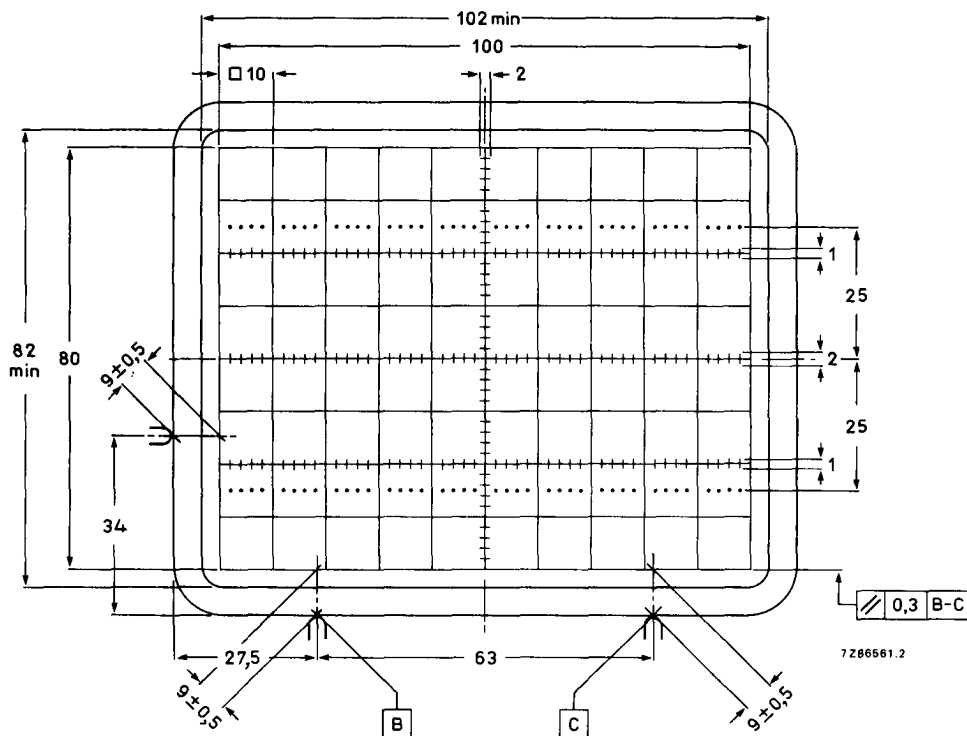

Fig. 4 Front view of tube with internal graticule, type 93.
Internal graticule	type 93; see Fig. 4
The tube can be mounted in any position. It must not be supported by the socket and not by the base region alone. The reference points on adjoining edges of the faceplate (see Fig. 4) enable the tube to be mounted accurately in the front panel, thus providing optimum alignment of the internal graticule.
- (4) Reference points on faceplate for graticule alignment (see Fig. 4).
The internal graticule is aligned with the faceplate by using the faceplate reference points, see Fig. 4. See also note 1.
1. As the frit seal is visible through the faceplate, and not necessarily aligned with the internal graticule, application of an external passe-partout with open area of max. 102 mm x 82 mm is recommended. The internal graticule is aligned with the faceplate by using the faceplate reference points (see Fig. 4).